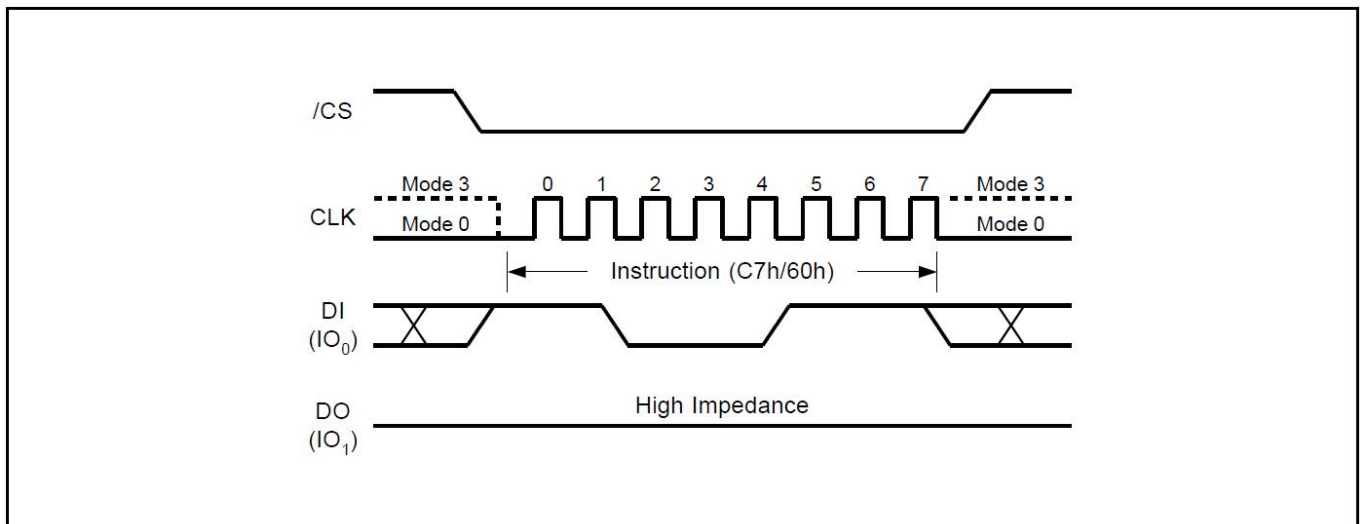

Figure 19. Chip Erase Sequence Diagram
The Chip Erase command sequence: CS# goes low → sending Chip Erase command → CS# goes high. The command sequence is shown in Figure19. CS# must be driven high after the eighth bit of the command code has been latched in; otherwise the Chip Erase command is not executed. As soon as CS# is driven high, the self-timed Chip Erase cycle (whose duration is tCE) is initiated. While the Chip Erase cycle is in progress, the Status Register may be read to check the value of the Write in Progress (BUSY) bit. The Write in Progress (BUSY) bit is 1 during the self-timed Chip Erase cycle, and is 0 when it is completed. At some unspecified time before the cycle is completed, the Write Enable Latch (WEL) bit is reset. The Chip Erase (CE) command is executed, if the Block Protect (BP2, BP1, and BP0) bits are 0 and CMP=0 or the Block Protect (BP2, BP1, and BP0) bits are 1 and CMP=1.